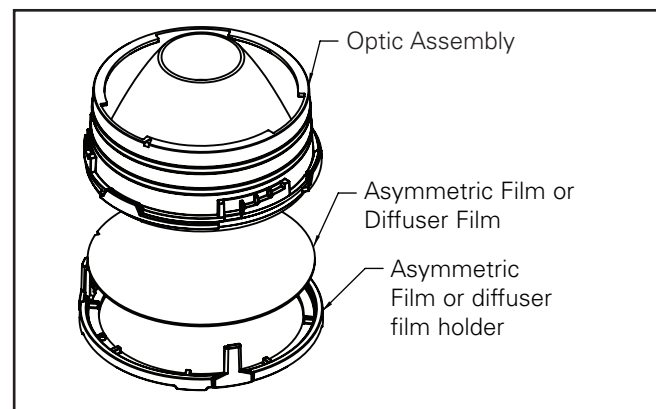

Figure 17
6. To install asymmetric film, follow the steps 1 to 5 with Asymmetry setup. (Figure 17)